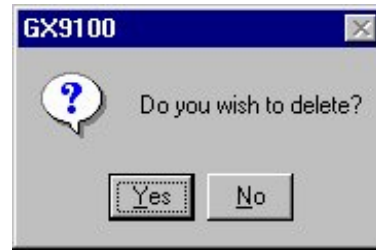

Figure 13-8: GX9100 Confirm Deletion Dialog Box
2. Select Delete from the pop-up menu that appears. A GX9100 dialog box appears (Figure 13-8) to confirm deletion.